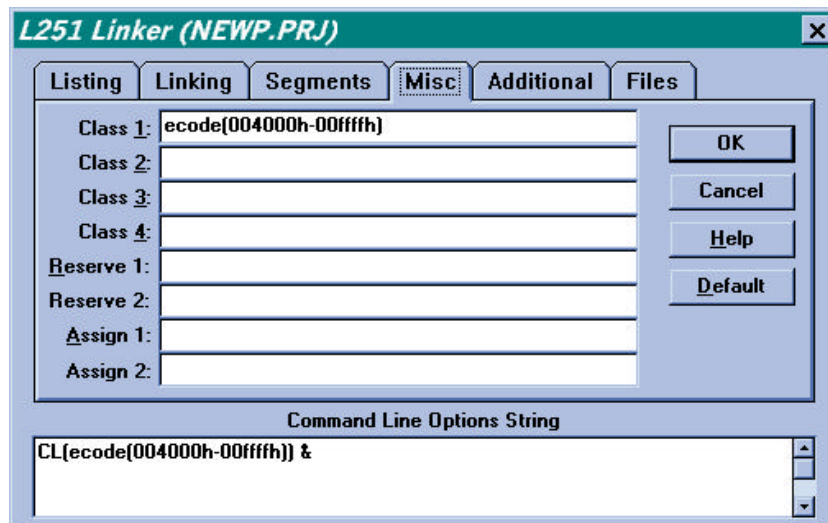

FIGURE 4b
- Choose the *Misc.* tab - Figure 4b opens up.